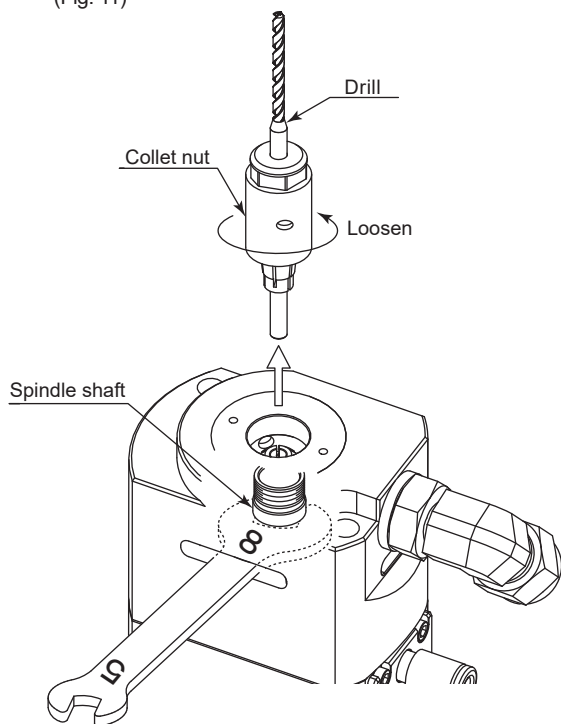

Fig. 8
- (1) Loosen the collet nut with the drill installed as described in section "8. CHANGING THE DRILL". Keep turning the collet nut until it comes out of the spindle shaft together with the drill, and then remove the drill from the collet. (Fig. 8)